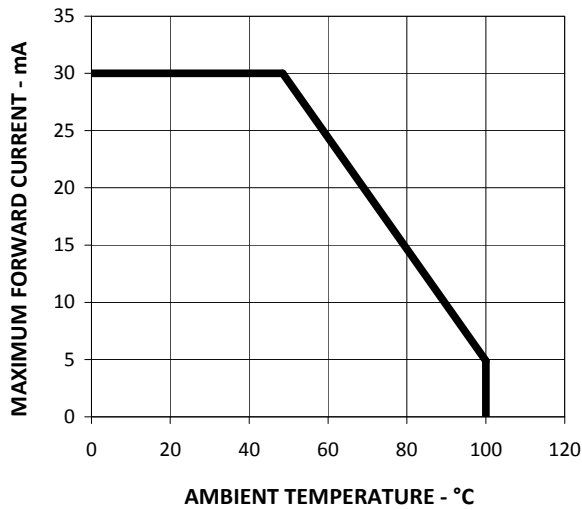

Figure 4. Maximum Forward Current Vs. Ambient Temperature. Derated Based on  $T_{JMAX} = 110^{\circ}C$ ,  $R\theta_{JA} = 500^{\circ}C/W$
1. Derate linearly as shown in Figure 4.